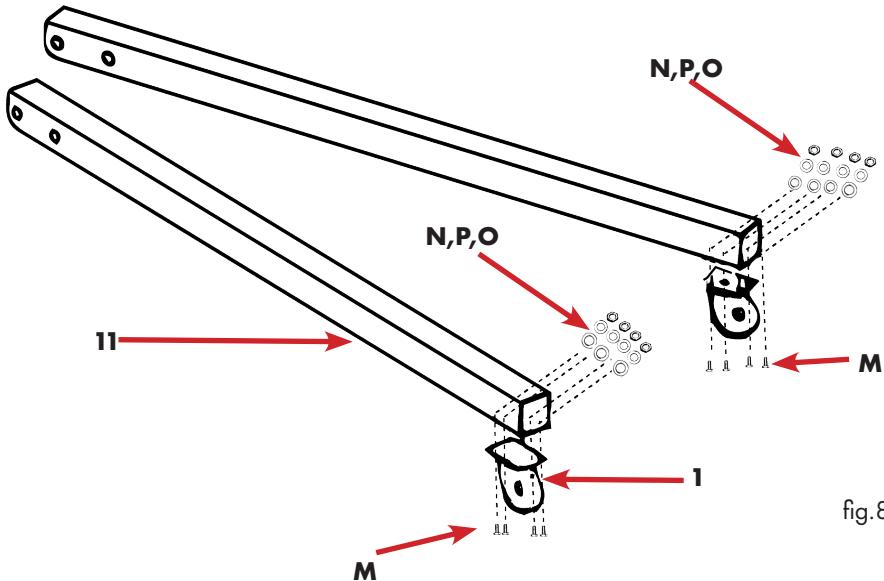

fig.8
- Once the rollers have been fixed, tighten all remaining nuts firmly, fig. 8.
Legend Figure 8 (see also from page 15, Figure 2 and Table 1)